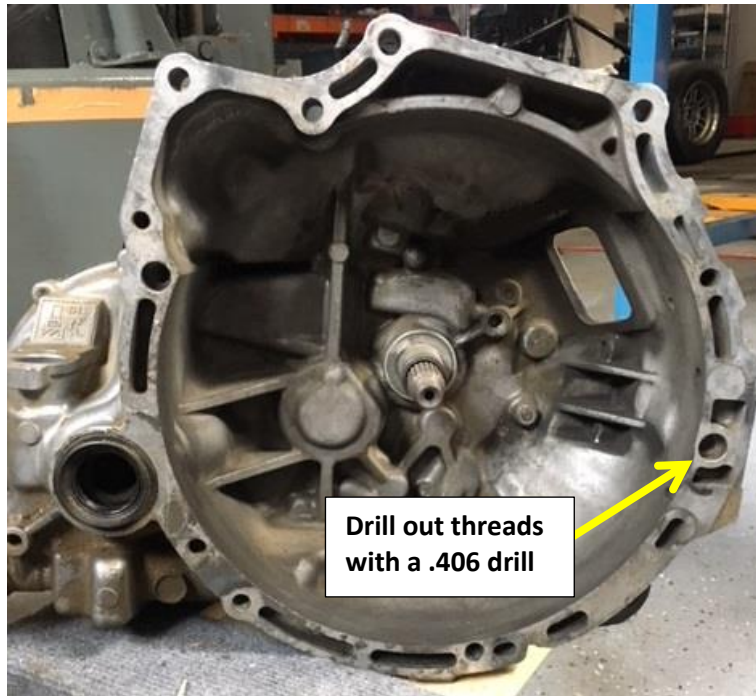

Figure 11 – Transaxle Mounting Hole Modification Location
3. Use Figure 11 to locate the hole to be drilled. The hole is at about the 4:00 position when looking at the inside of the clutch housing.